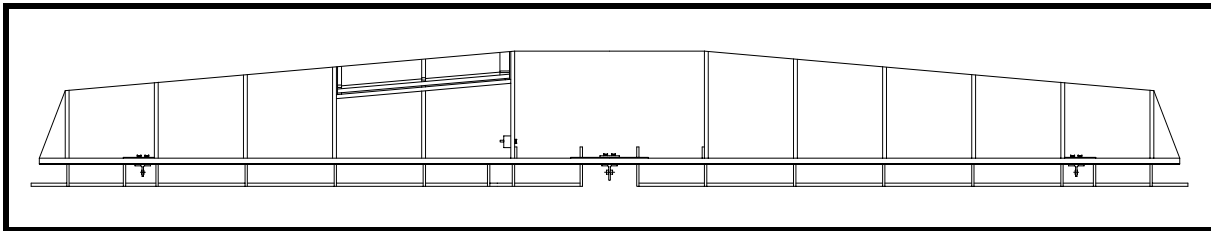

Figure 6
- ❑ Install the elevator trim tab spar, P/N 406-4, on the elevator trim tab closing spar, using 22° wedges of scrap wood as described above. See Figure 6.
- ❑ Install the three trim tab ribs. The outboard ribs may be clamped to the elevator ribs using a 3mm shim, or temporarily glued, to be separated later. See Figure 6.